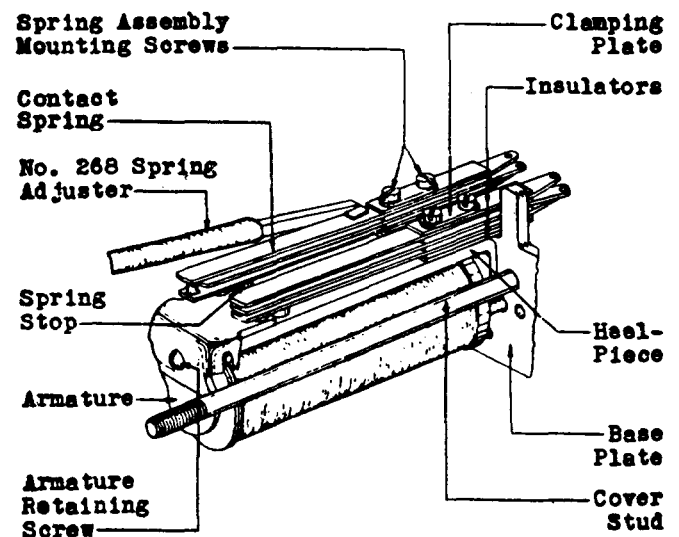

Fig. 6 – Method of Adjusting for Contact Pressure of All Relays Except 194- and 366-type Relays
(7) **All Relays Except 194- and 366-type Relays:** Adjust the spring as required with the No. 268 spring adjuster. Place the adjuster on the front end of the spring but in back of the contacts and armature studs and slide it back to a point about 1/4" from where the spring leaves the spring assembly as shown in Fig. 6. Adjust the spring at this point with a slight twist upward or downward as required, exercising care not to disturb adjacent springs.